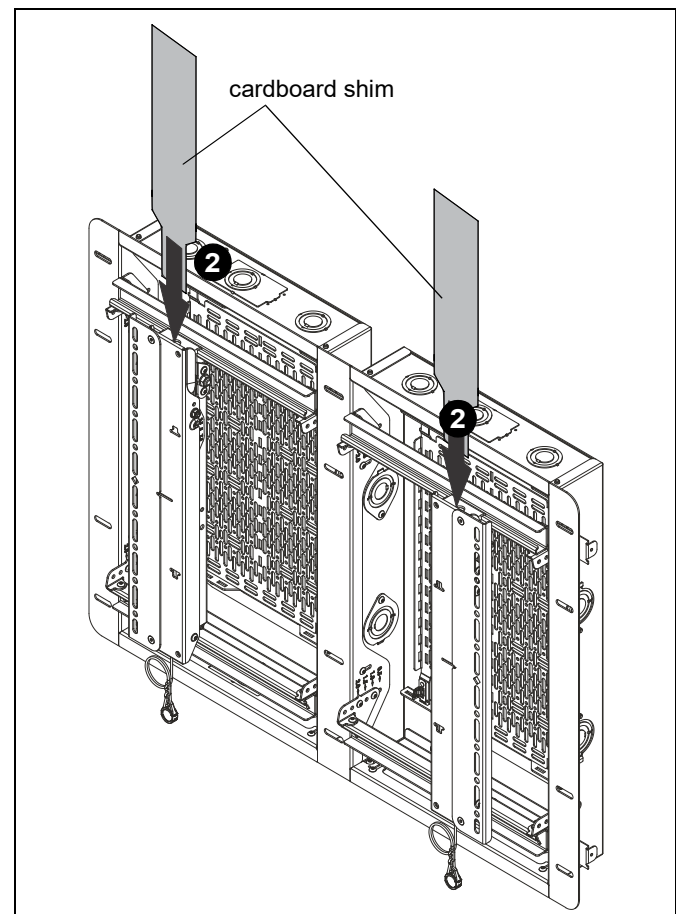

Figure 33
2. Place created shim tool down top of each upright and gently push and pull on display while shimming until it releases. (See Figure 33) and (See Figure)